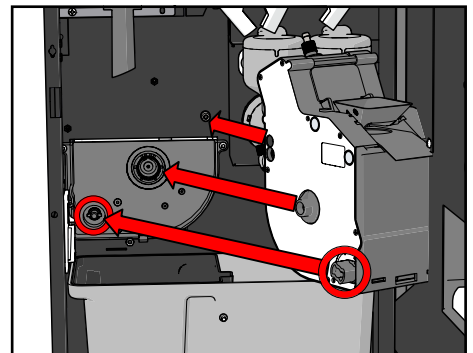

Figure 15.
2. Re-install the brewer and the outlet arm (see Figure 15).